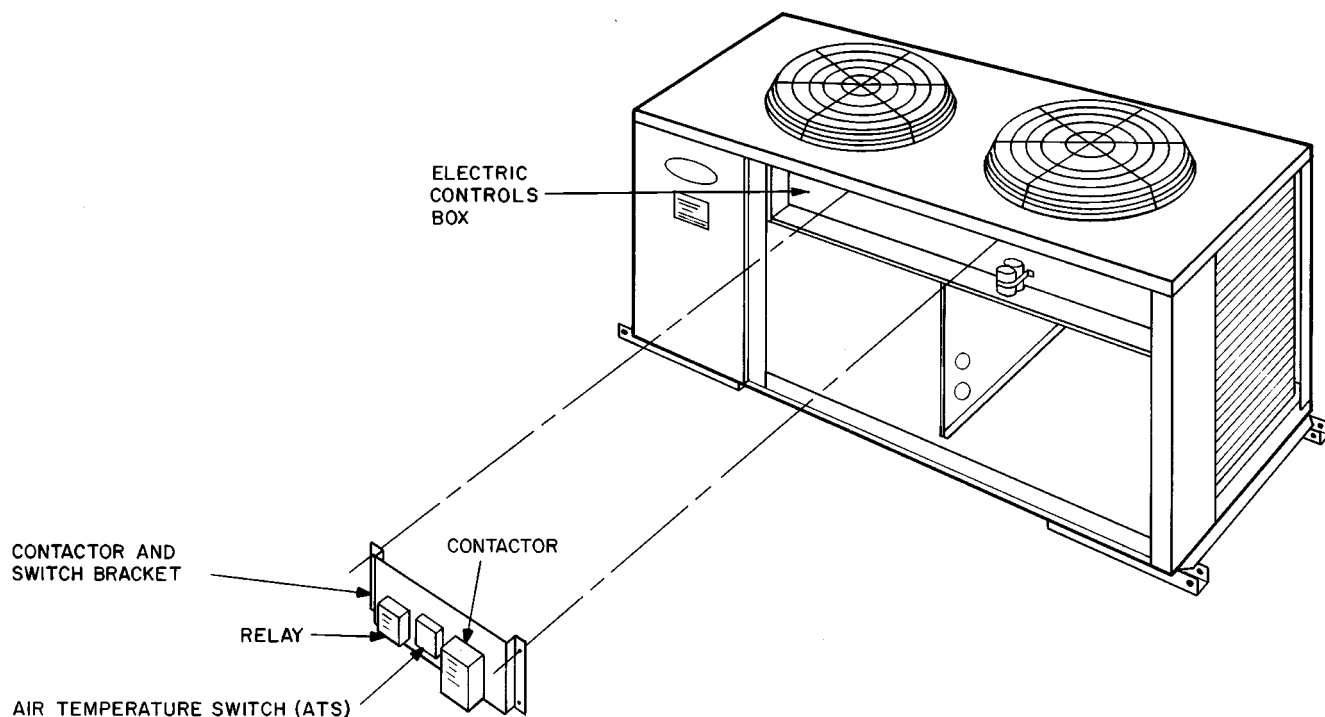

Fig. 5 — Fan Control Package for 09DE016
3. Mount temperature actuated switch, relay and contactor on bracket as shown in Fig. 5 using the #6B — ½ screws supplied with the package.
4. Mount the bracket assembly on the electric control box panel as shown in Fig. 5 (indicated by dotted lines), using the #10AB — ½ screws supplied for fasteners. Position bracket assembly on panel until matching holes are located.